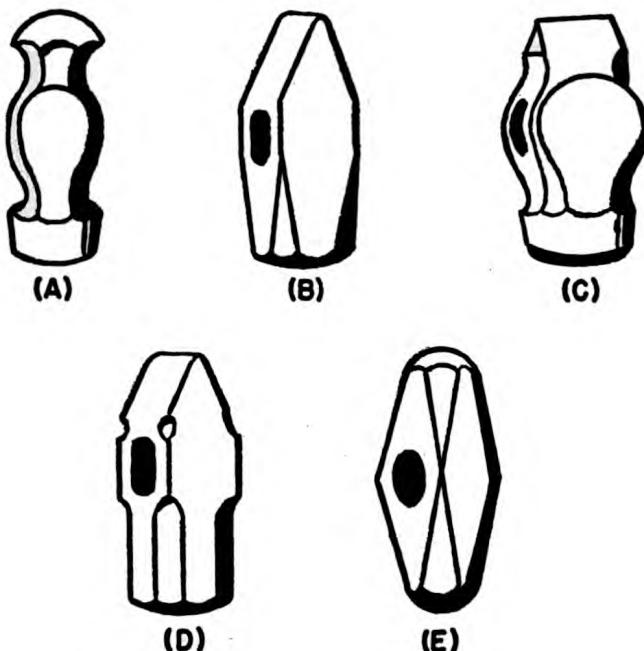

Figure 83.—Hammer type according to weight and peen.
refers to the shape of the top or back surface of the head **OPPOSITE** the working surface, or face. Thus, a hammer may be **BALL-PEEN**, as (A) of figure 83, **CROSS-PEEN**, as (B), or **LONG-PEEN** (sometimes called **STRAIGHT-PEEN**) as (C).
In figure 83 (*D*) you see a typical **HAND SLEDGE HAMMER**. This type of hammer is used by your helper to strike "shoulder" blows. That is, he hoists the head of the sledge to his shoulder and strikes from that position. Both large hammers and sledges are often called flogging hammers because they do only heavy work.
For striking exceptionally heavy blows, your helper uses a mean-looking baby like the **SWING SLEDGE** shown in figure 83 (*E*). It gets its name from the fact that the helper grasps the handle near the end (it is about 3 feet long) and delivers a full arm swing blow. Thus the head of the sledge, weighing 8 to 20 pounds, passes through a rather wide arc.